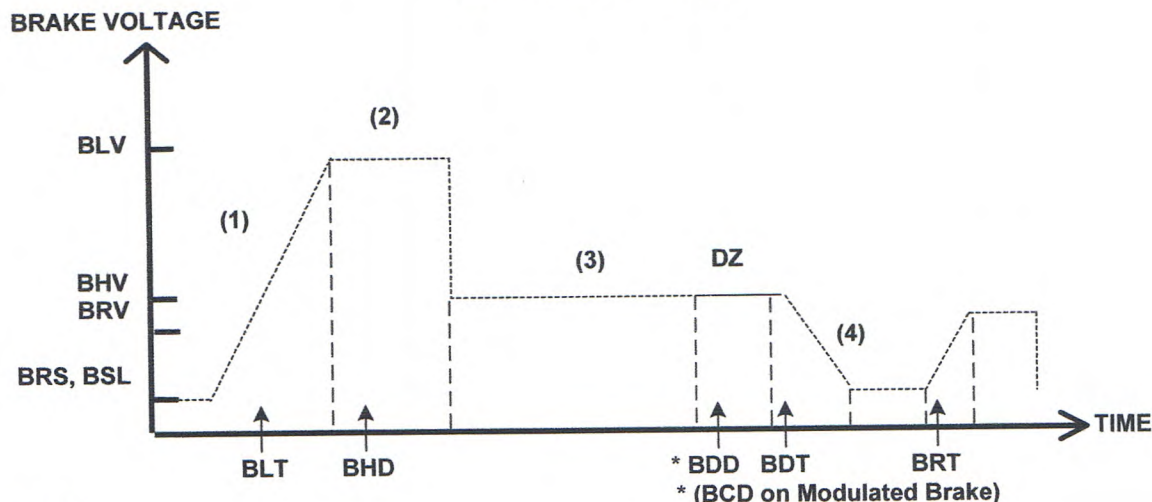

Figure 7-3
5. Manually pick the brake slightly to allow the elevator to sag below the floor. Adjust the parameters BRT, BRV and RVE to allow the elevator to re-level into the floor without dropping further. See Figure 7-3 for full brake parameter details.
Note: See Figure 7-3 on following page for acronyms.